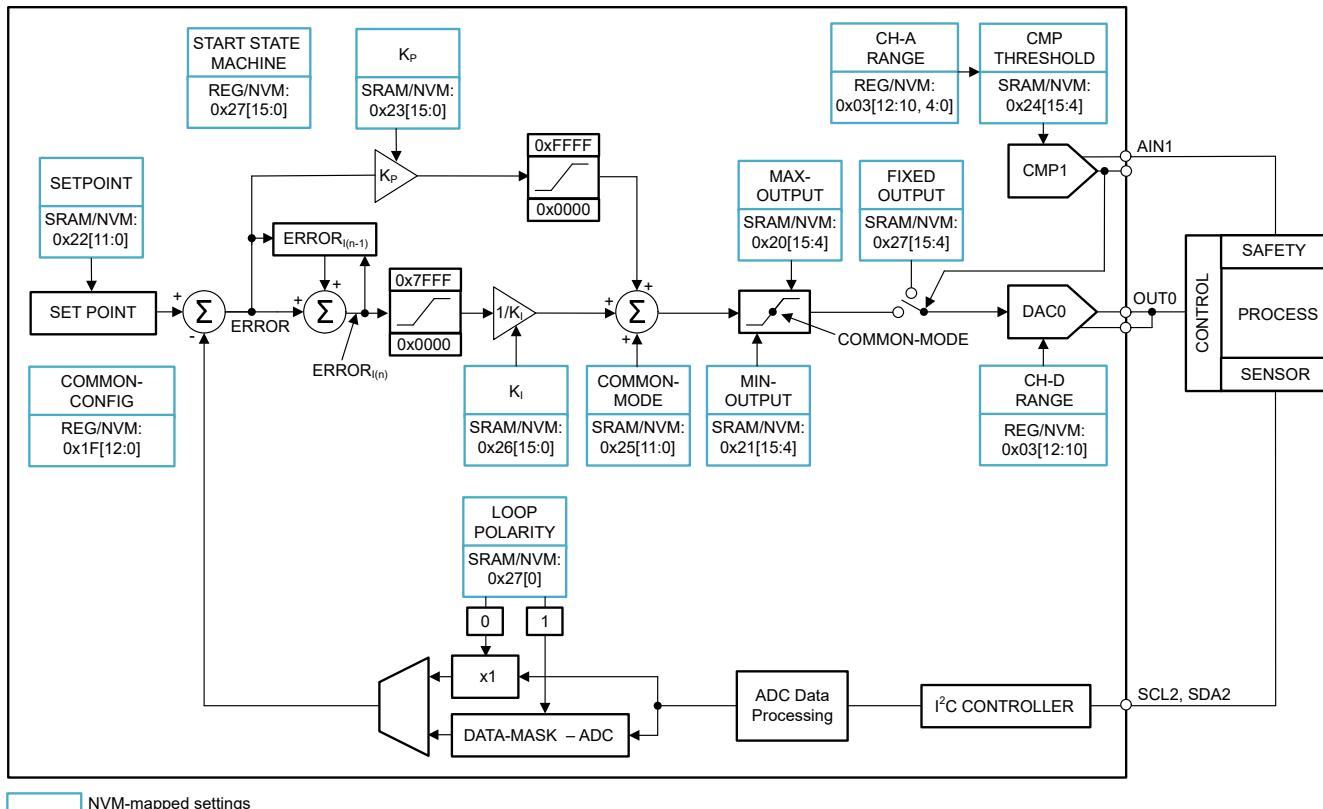

図 7-9. PI Controller Architecture of AFE639D2
The AFE639D2 provides a preprogrammed PI controller state machine, as shown in 図 7-9. An external digital temperature sensor is used as the input and DAC channel 0 is used as the output. DAC channel 1 is used as a comparator that is used to set the output of DAC channel 0 to a value specified by the FIXED-OUTPUT field. 表 7-13 lists all the input/output pin names and functions.
2. Connect the external temperature sensor or ADC input, comparator input, and DAC output as shown in 图 7-9.